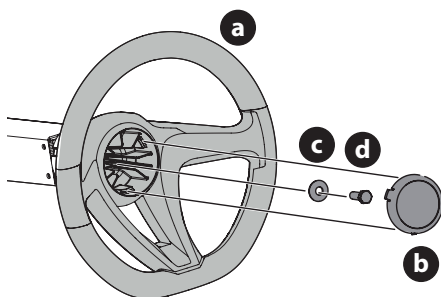

Fig. 7
1. Remove the hardware from attaching the steering wheel (a) from beneath the steering wheel cover (b). Carefully remove the cover by inserting a small, bladed screwdriver into one of the three snap locations and slowly prying up on the steering wheel cover (b) to remove the hardware (Fig. 7).
2. With the wheels of the machine pointing straight forward, place the steering wheel (a) over the steering shaft (Fig. 7).
3. Place the Belleville washer (c) with the cupped side facing inward over the steering wheel and secure with the hex lock screw (d) (Fig. 7).
4. Place the steering wheel cover (b) over the center of the steering wheel (a), align the three snaps with the tabs in the steering wheel and push downward until it "clicks" into place (Fig. 7).